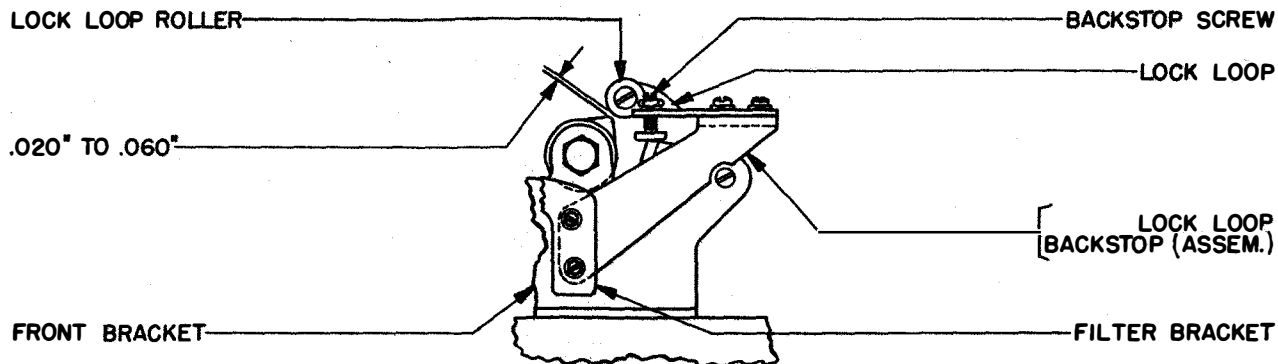

FIGURE 1
- \*(1) Remove and discard the 89080 guard (if present), the transmitting contact mounting assembly, its mounting screws and lock washers and the 35-133 trip-off pawl spring.
- (2) Remove and discard the present cam sleeve assembly and install the 111731 cam sleeve assembly by removing the rear bearing bracket.
- (3) Install the 112588 contact mounting assembly, using the two 112498 screws furnished.
- (4) Install the 112587 lock loop backstop assembly on the 7382 front bracket using the longer 74986 screws for mounting, instead of the 6746 screws. (See Figure 1.)
- \*(5) Install the 91120 trip-off pawl spring.
With the lock loop held against the backstop screw there should be .020" to .060" clearance between the lock loop roller and the lock loop cam when the transmitting cam sleeve is rotated to make this clearance a minimum. Adjust by positioning the backstop screw. (See Figure 1.)